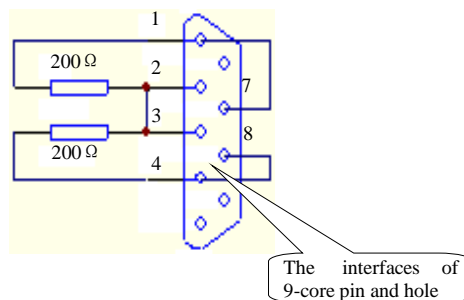

Figure 1
- JB1:black 10-pin interface connects to the baffle of 9-core connect to through flat wires, then to the sensor, pin definitions of 1 to 9 feet is the same with JA2, 10 feet is vacant; the fabrication method of short interfaces of 9-core pin and hole as Figure 1.